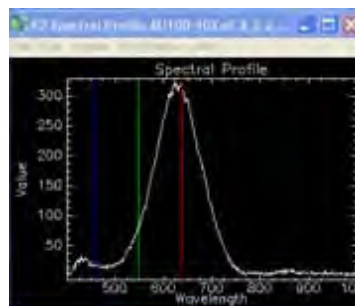

Figure 23. Spectral Profile, wavelength display
5. The spectral profile (see Figure 23) is marked with red, green and blue lines that show the wavelengths of the RGB display bands. The HSI band and wavelength are shown below the plot when the user clicks on the line. The default bands are "true color" wavelengths: red = 640nm, green = 550 nm and blue = 460 nm. Images will appear with normal colors using the default setting